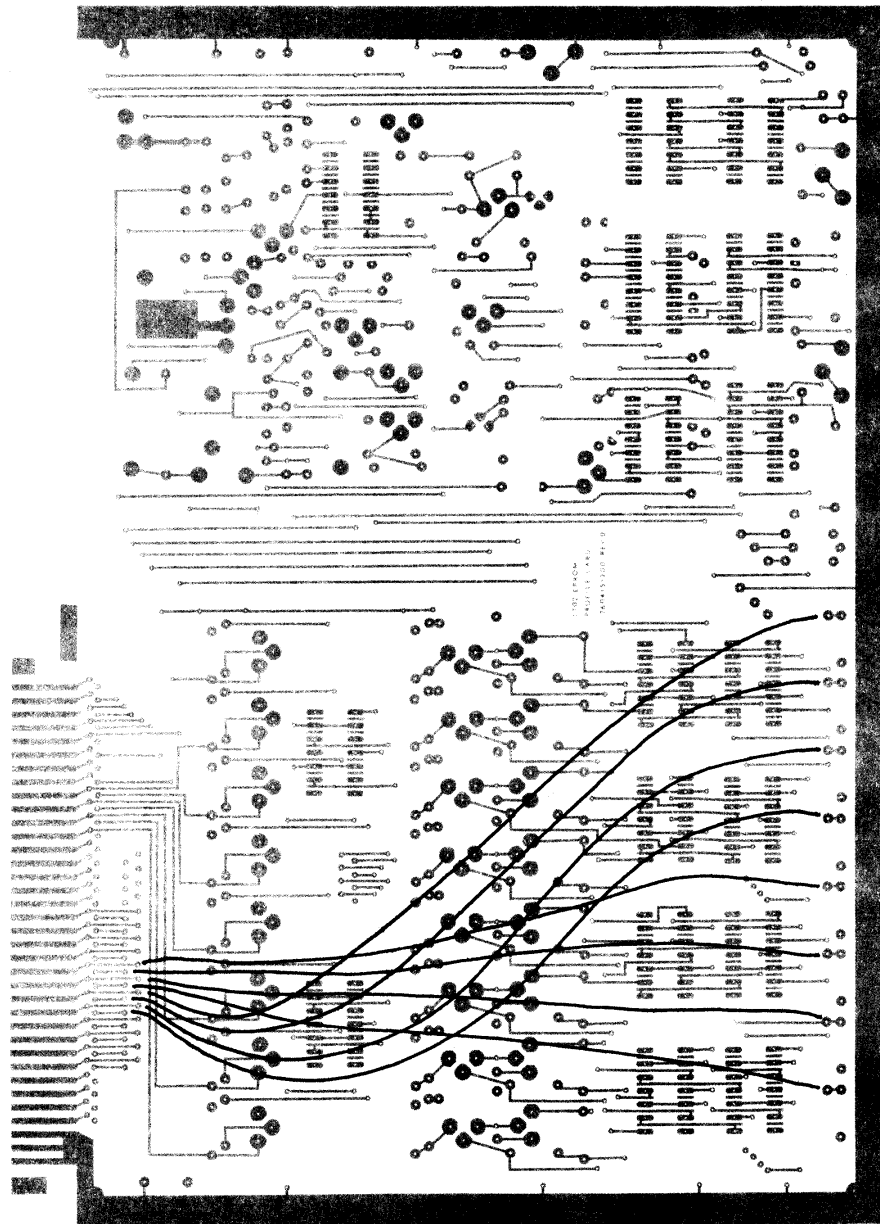

Figure 4. Output from Data Receiver Wiring
- (✓) Cut sixteen lengths of wire approximately 7 inches long. Strip 1/4 inch of insulation from each end. Install eight of these as shown in Figure 4. Solder and cut off excess lead length.